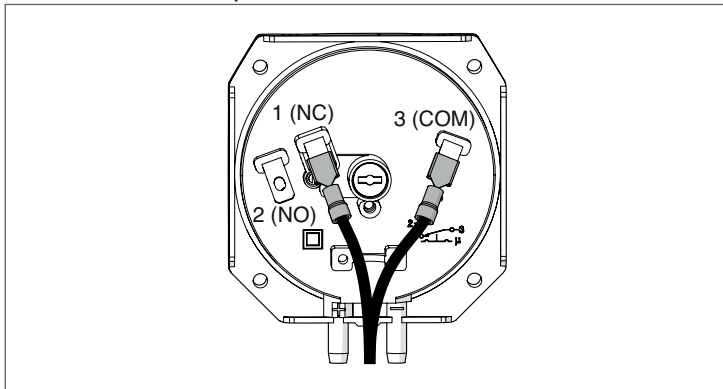

Fig. 64 Wired pressure switch
- Test the pressure switch on the other side of the boiler (module 4 or 8); repeat the process from Fig. 64 through Fig. 67.
- Follow the steps from Fig. 64 through Fig. 67.